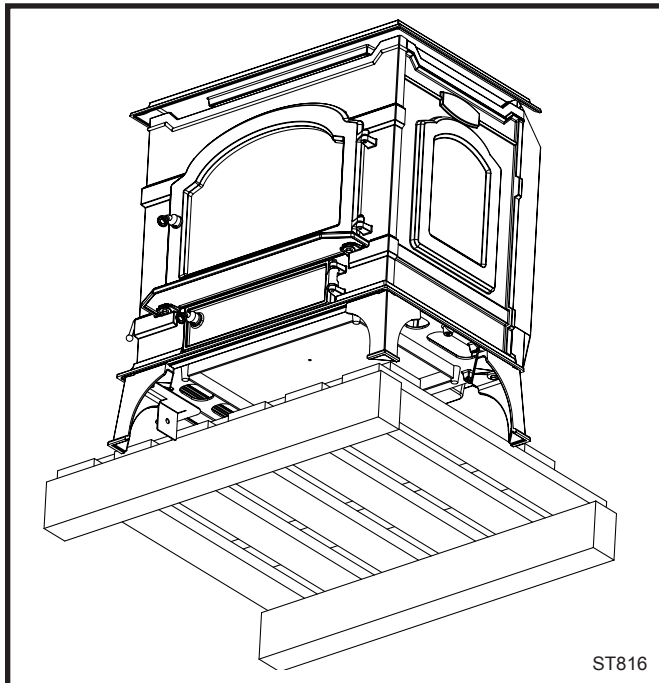

Fig. 21 Reposition stove so one rear leg can be attached.
4. In the hardware bag, locate the four legs, the door handle insert holder, (on this leg only, the door handle insert holder is used along with a washer), (4) 1/4-20 x 1" leg bolts and four (4) washers.
7. Reposition the stove so the first rear leg can be attached. Attach the leg using the procedure described in Step 6. (Fig. 21)
9. Remove the (4) 1/4-20 x 3/8" hex head bolts from the mounting bosses and attach the bottom heat shield using the same bolts.